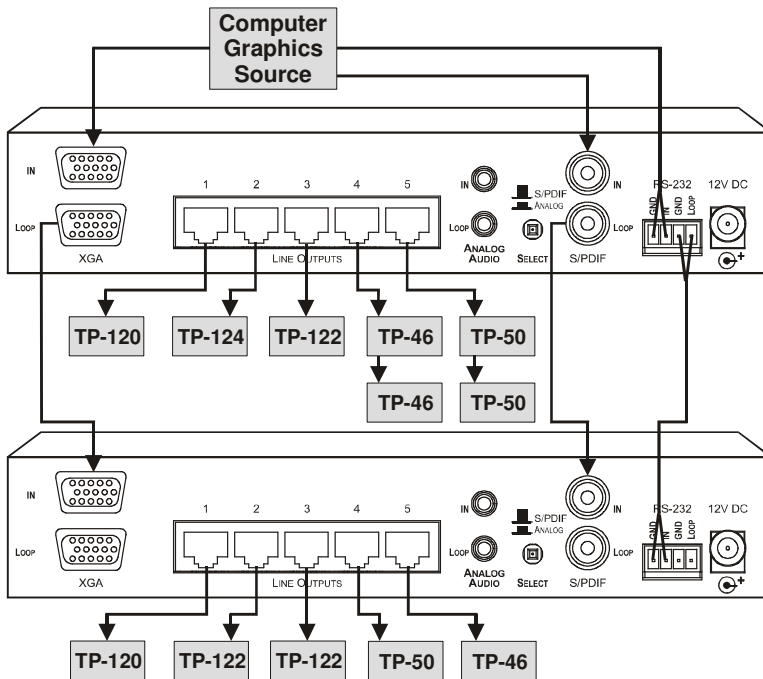

Figure 4: Looping the TP-205A
You can loop two¹ **TP-205A** units to add further output signals to the system, as illustrated in the example in Figure 4. In this example:
4. Connect the LINE OUTPUT RJ-45 connectors on each **TP-205A** unit, to the LINE IN RJ-45 connectors of various receivers, as illustrated in Figure 4.